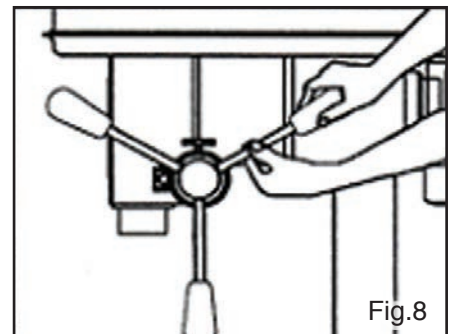

Fig.8
- Screw knob on each feeding handle, install them into the hub of the pinion shaft. Fig. 8.